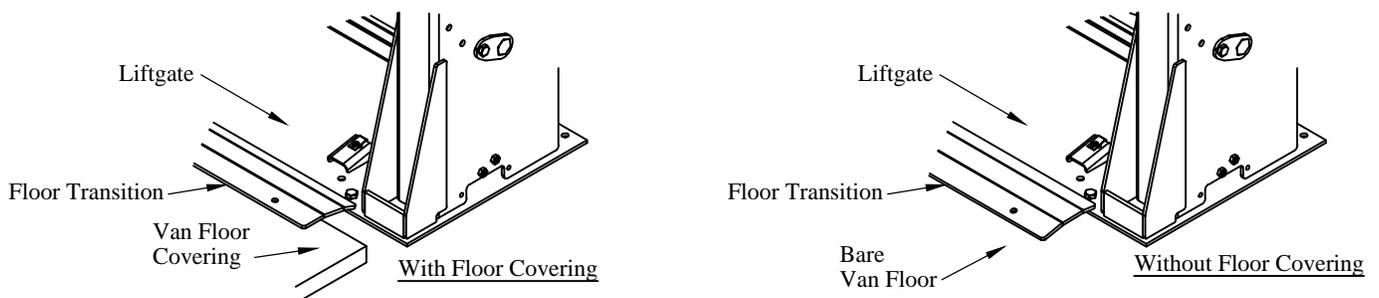

Figure 15: Floor transition.
- 1. Position** the floor transition with one side on the liftgate and the other side on the van floor (Figure 15).